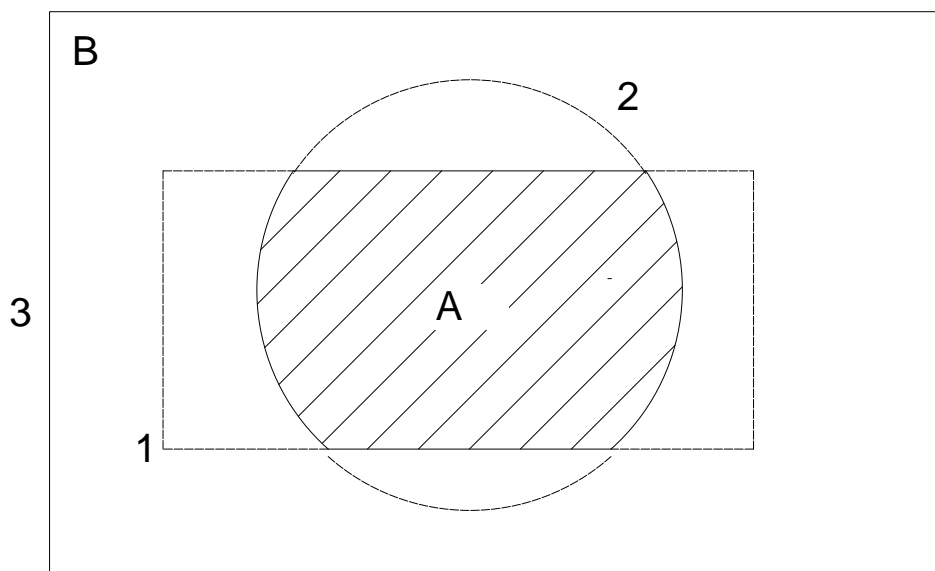

Figure 2: Use of OR operator.
As a more complicated example of the use of the (OR) operator, consider the system shown in Fig. 2 consisting of the shared region A and the unshared region B. These regions can be described by the two BOX's, bodies 1 and 3, and the RCC, body 2. The region description would be